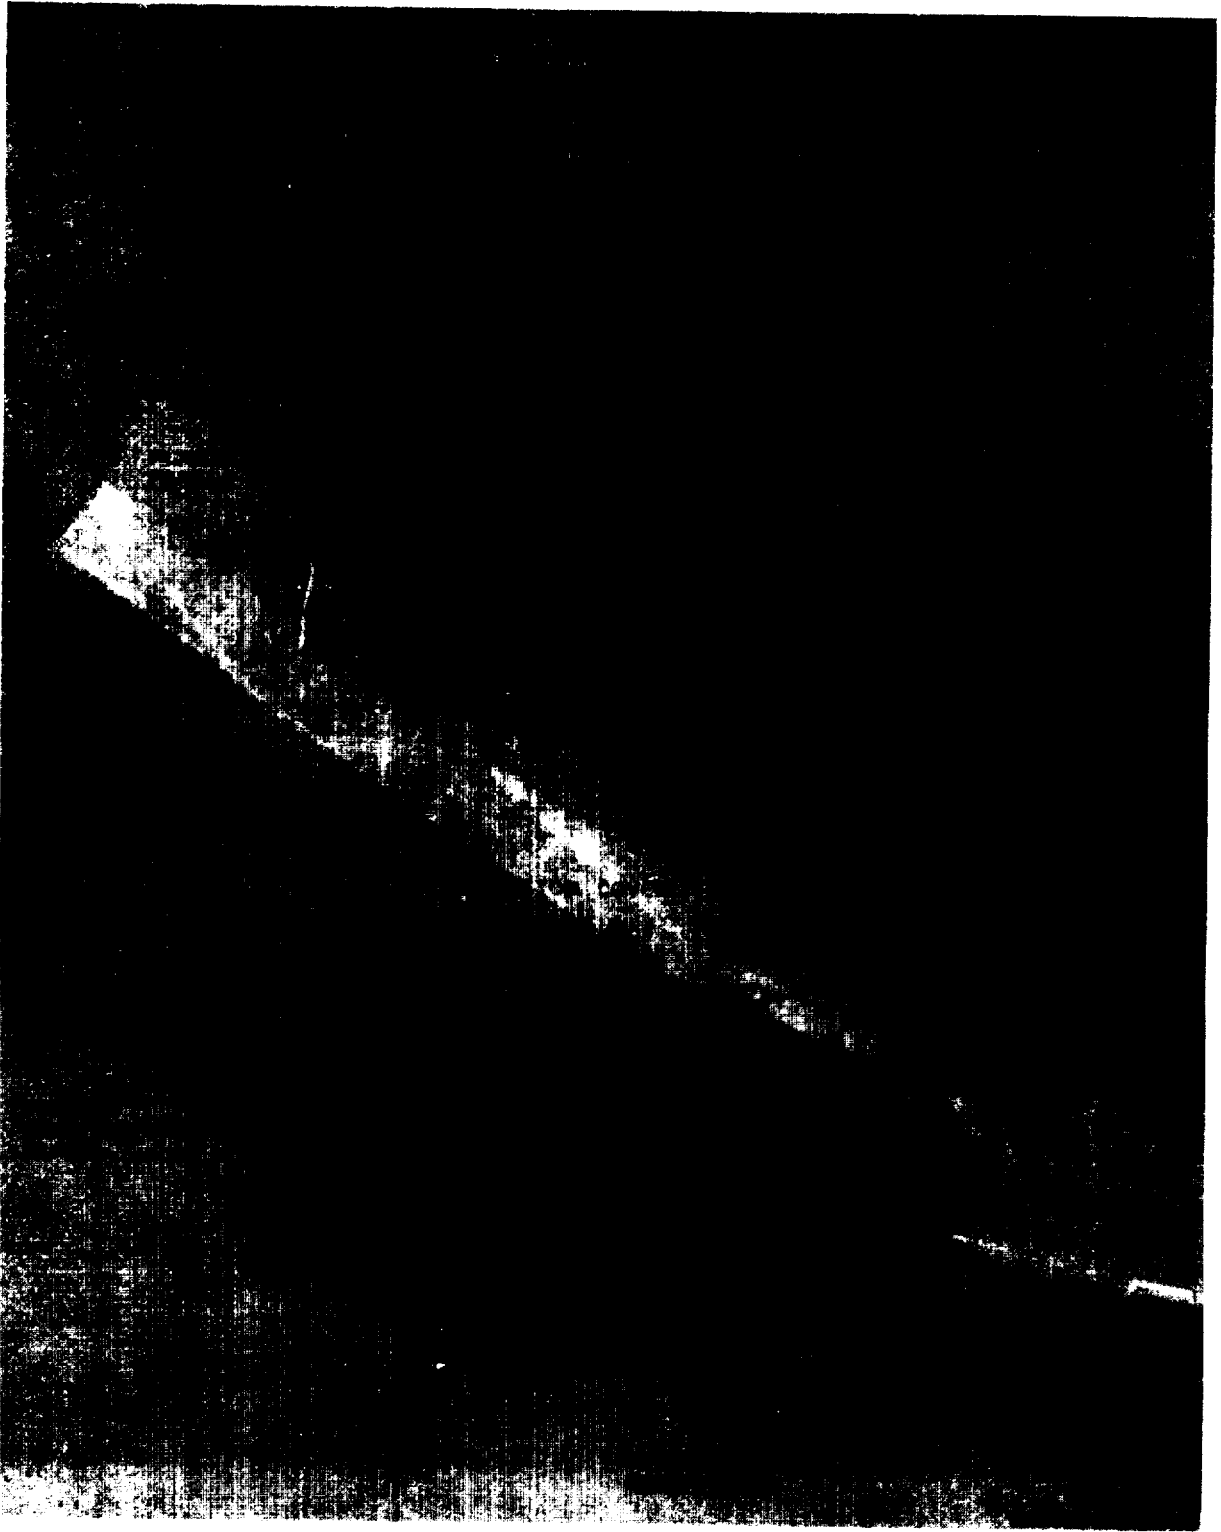

Figure 5. Panel, Signal Distribution, Radio SB-329/AR.
(fig. 5)
c. The INT signal distribution panel is flush mounted by four quick-disconnect fasteners on the sides of the front panel. The spring lock receptacles mate with the spring lock fasteners on the panel connector (Federal stock No. 5935-642-5387 (fig. 1)) that secure the panel connector to the rear of the INT signal distribution panel (fig. 5). The top and bottom covers are secured to the INT signal distribution panel by mounting screws.